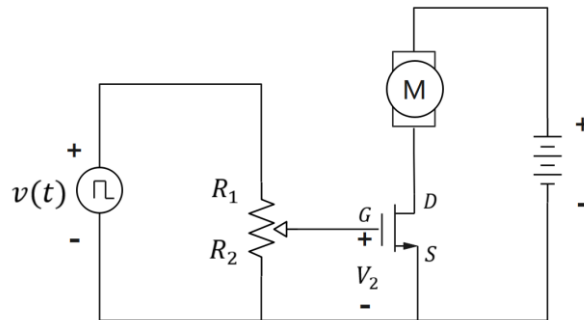
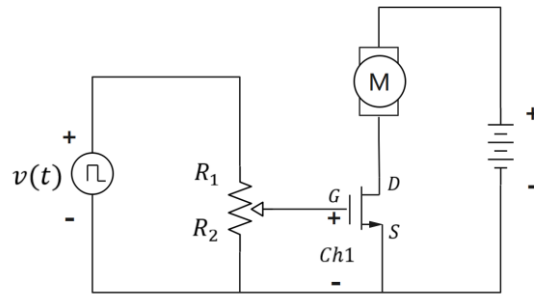

Figure 2: Slowing the motor speed in the motor-drive circuit
Figure 3: Using the oscilloscope to measure to the gates of the MOSFET
Use the function generator to slow the motor as shown in Figure 2 below. Use a square wave with **7V amplitude, 1kHz, and 3.5V offset**. Observe the voltage  $V_2$  on
**Question 7:** Use the oscilloscope to measure the RMS voltage of MOSFET gate ( $V_2$  in Figure 2). Place the black probes at the **negative** side of the battery and the red probes at the gate of each transistor in turn (Figure 3).